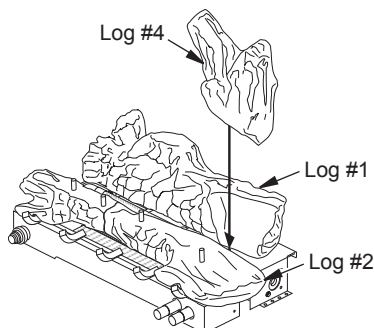

Figure 26 - Installing Log #4
4. Align hole in bottom of log #4 with pin on base as shown in Figure 26. The end of log #4 will rest on base slightly behind log #2.